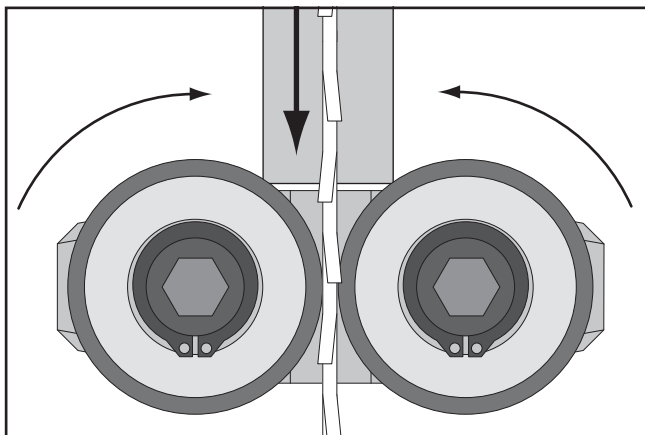

Figure 35. Blade guide bearings evenly and lightly touching the sides of the blade.
- Loosen both cap screws behind the guide bearings, then rotate the adjustment cap screws so the bearings evenly and lightly touch the sides of the blade (see the illustration in **Figure 35**) without deflecting it one way or the other.